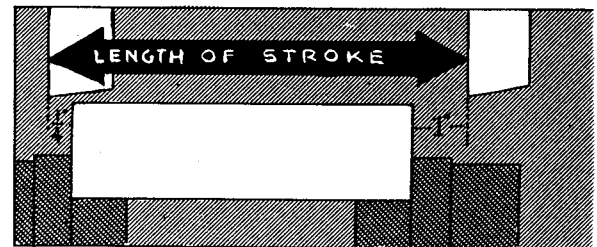

FIG. 433
CAUTION Often a tool of this kind has a tendency to bind in the slot, and, as a result, it does not release from the slot on the return stroke in time to allow the tool to drop clear of the work and ready for the next cut (Fig. 436). To overcome this, $1/4"$ to $1/2"$ more than the usual $1/2"$ may be allowed between the work and the beginning of the stroke (Fig. 433). This will allow the tool to be pulled clear of the slot.
6. Adjust the position of the ram so that the cutting edge of the tool is $1/4"$ beyond the front end of the work when the ram is in the forward position (Fig. 433). Refer to page 81, How to Adjust the Position of the Ram on the Crank Shaper, and to page 92, How to Adjust the Position of the Ram on the Hydraulic Shaper.